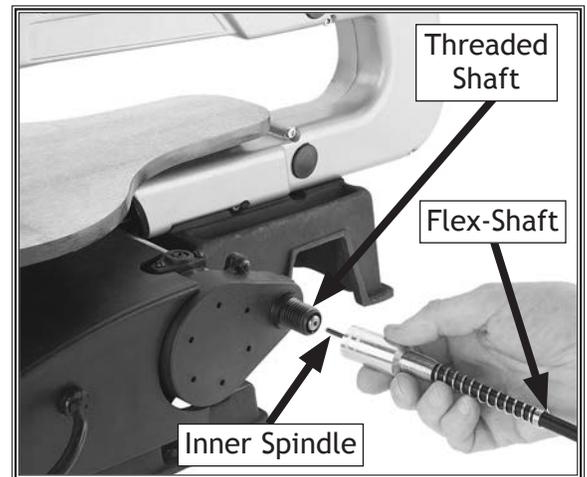

Figure 13. Example flex-shaft installation.
7. Insert inner spindle of flex-shaft into threaded shaft in saw, then turn flex-shaft clockwise to tighten, as shown in Figure 13.